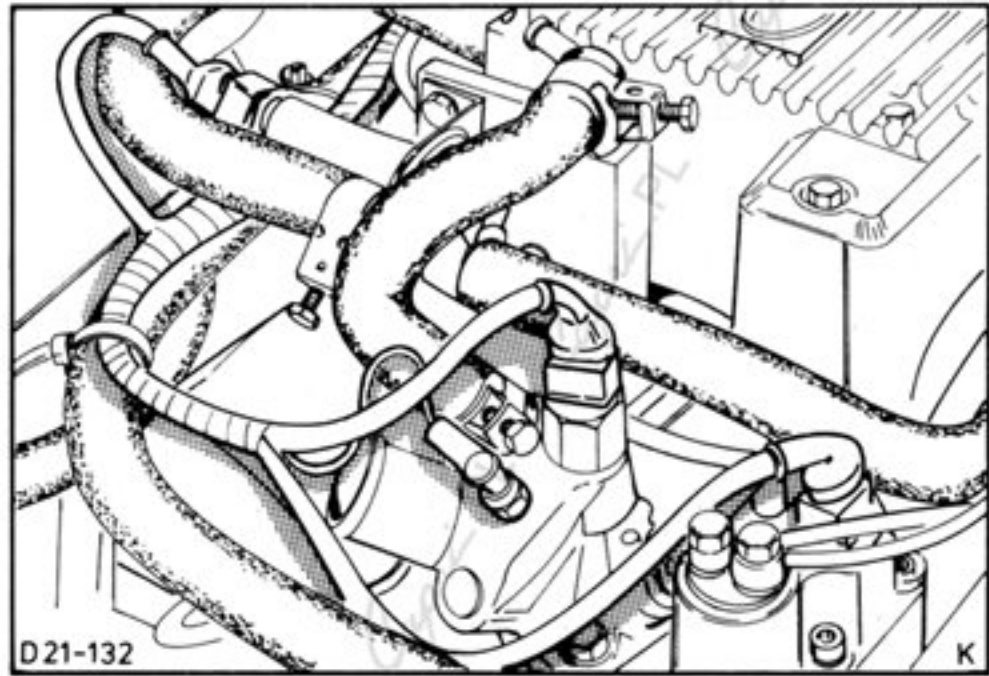

Fig.10. Disconnect electrical leads.
10. Disconnect electrical leads from temperature gauge sender, thermo time switch, warm-up device regulator, auxiliary air device and start valve, Fig.10.